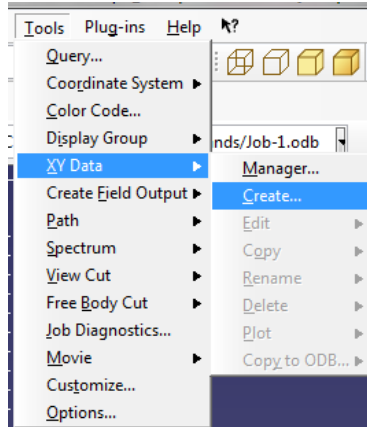

Figure 22
- Under Tools select XY Data then Create as in Figure 22